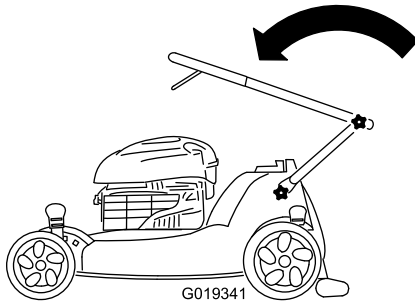

Figure 39
2. Fold the upper handle forward as shown in Figure 39.